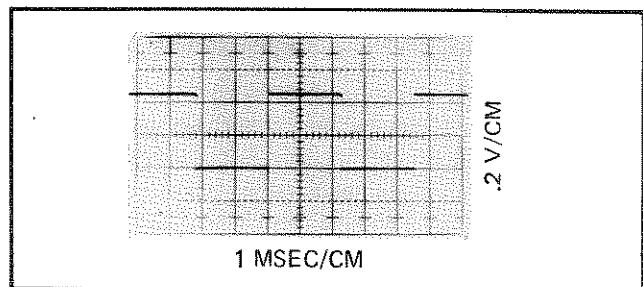

Figure 4-6. MULTIVIBRATOR SIGNAL -- TP9
d. Compare the oscilloscope display with the waveform shown in Figure 4-6 for amplitude, period, and symmetry. The observed signal parameters should be equal to those of the given signal within  $\pm 10\%$ .